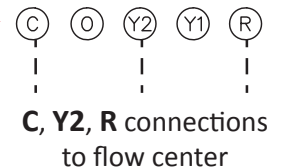

Figure 4: **Non-Communicating UPM Only**
6. Wire heat pump low voltage connections. The heat pump low voltage connections will depend upon the heat pump UPM (Unit Protection Module). Consult Table 1 and Figure 3 for heat pumps with communicating UPM; use Table 2 and Figure 4 for heat pumps with non-communicating UPM.
ACC	Brown wire at compressor contactor coil (Fig. 4)
C	C at thermostat connections (Figure 4)
Y2	Y2 at thermostat connections (Figure 4)
R	R at thermostat connections (Figure 4)